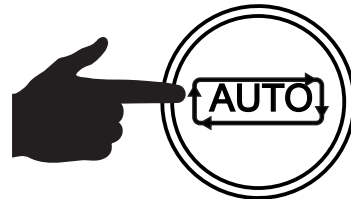

Figure 60. Auto Button
2. Press the **AUTO** button (Figure 60) on the controller.